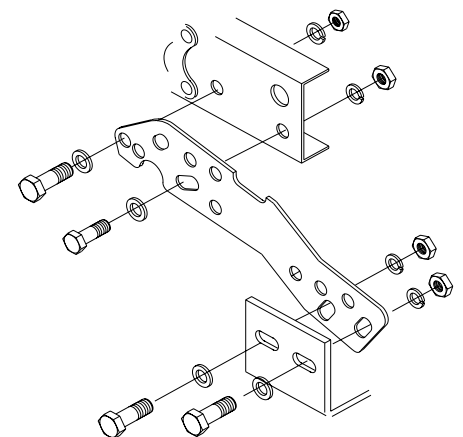

FIGURE 2
STEP 2: Install bumper onto mounting brackets with brackets INSIDE of bumper hitch. Refer to figure 2.